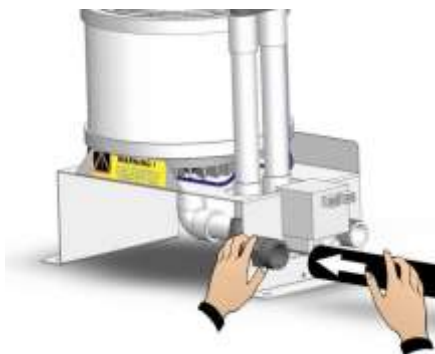

Fig. 18
3. Connect the water discharge tube to the 25mm diameter sleeve, fixing it with the provided strap (fig. 18 and 19).